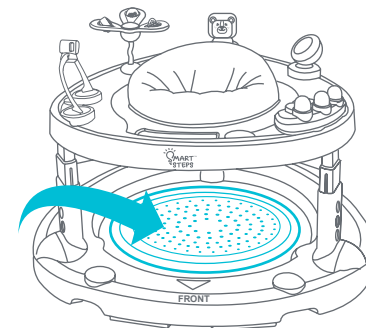

Fig. 9
- Insert the Air Bouncer Board into the bottom platform (Fig. 9).